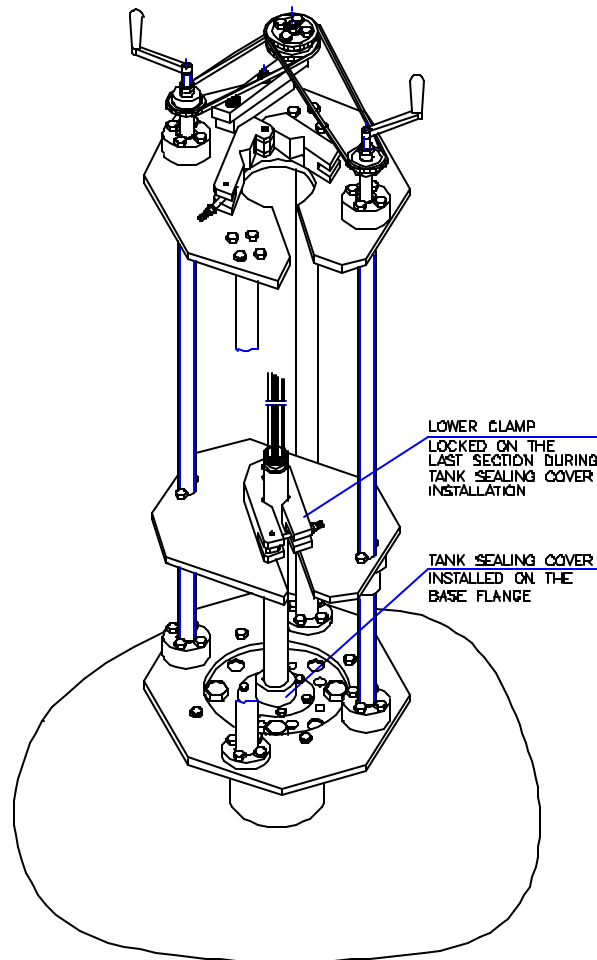
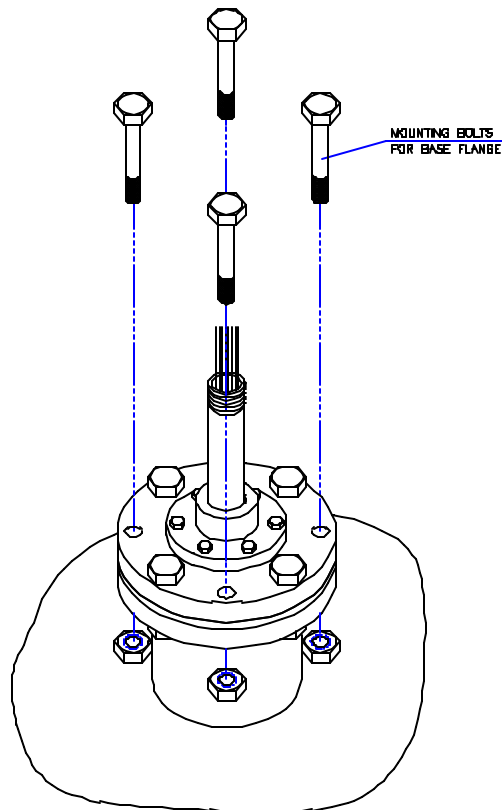

Figure 22
Figure 23
- Slide the **Tank Sealing Cover** all the way down the **Last Section** so that it comes to rest on top of the **Base Flange**. Pass six Bolts through the holes in the **Top System Flange** and tighten them (See *Figure 22* and *Figure 23*).
2. Put the four **Bolts** into the holes of the **Base Flange** and tighten them (*see Figure 23*).
2. Put the four **Bolts** into the holes of the **Base Flange** and tighten them (*see Figure 23*)